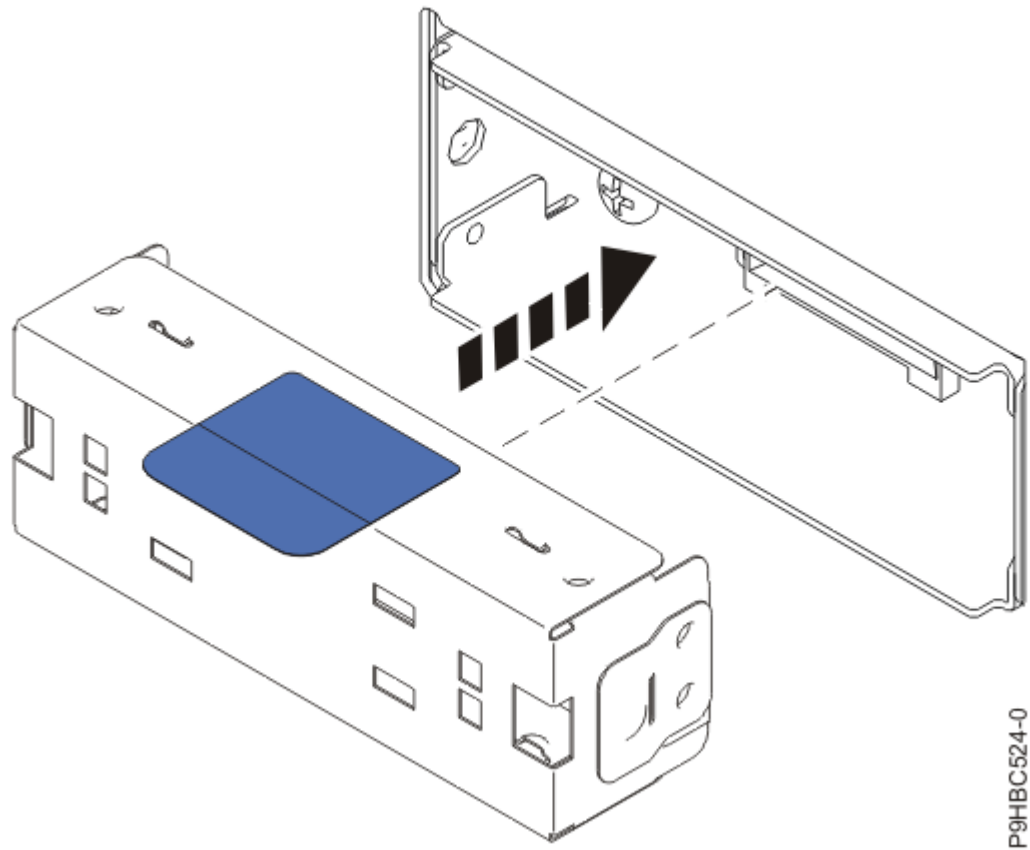

Figure 21. Inserting a display filler
3. If you are moving the control panel display to another system, replace the display with a filler as shown in Figure 21 on page 23.